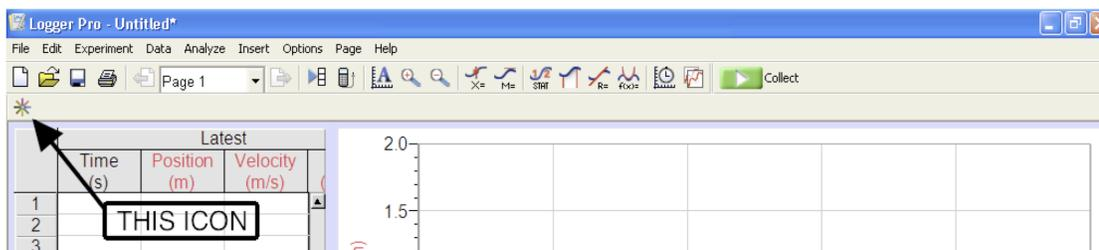

Figure 1
1.1.3 On the Logger Pro main window, click on the *LabQuest Set Up Sensors* icon. See Figure 1.